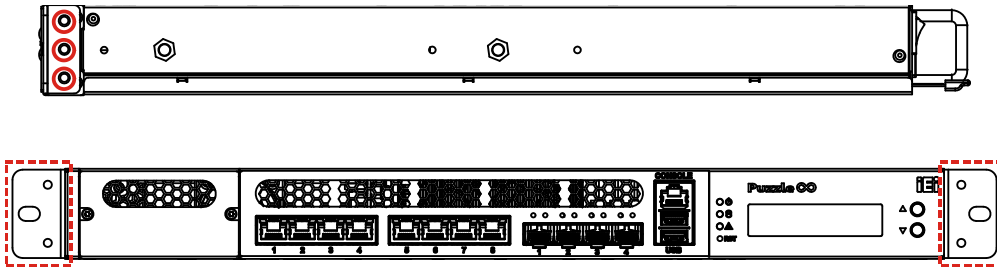

Figure 3-17: Rack Mount Bracket Installation
- Step 1:** Install the rack mount brackets to the sides of the PUZZLE-A001 by inserting three retention screws (M4*6) into each bracket (**Figure 3-17**). Make sure the screws are tight and on the right positions.